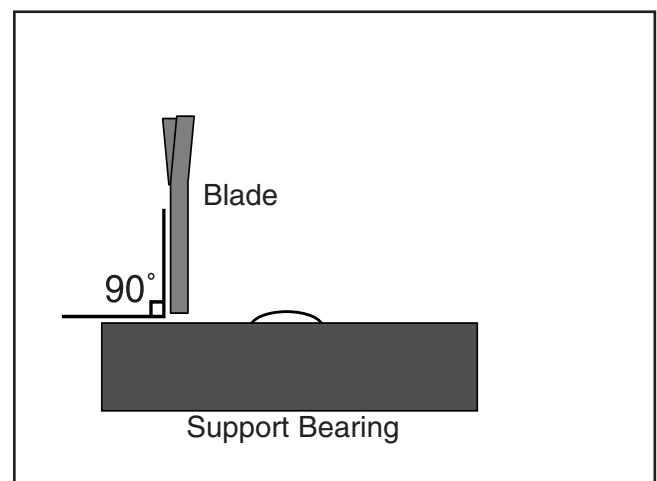

Figure 49. Illustration of blade set perpendicular (90°) to the support bearing face.
4. Loosen the guide block assembly screw and rotate the blade guide assembly side-to-side, until the blade is perpendicular with the face of the support bearing, as illustrated in **Figure 49**.
5. Make sure that the blade is perpendicular to the face of the support bearing, as illustrated in **Figure 49**.